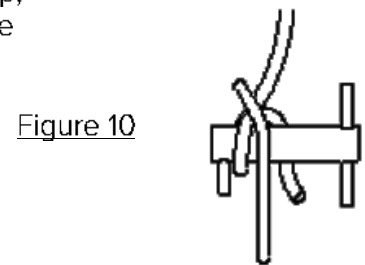

Figure 10
- Continue by looping the rope around the "short leg" of the Port-A-Wrap, ensuring the rope is captured between the "rope retention bar" and the "large loop". Pass the rope back through the "small loop" (Figure 10).